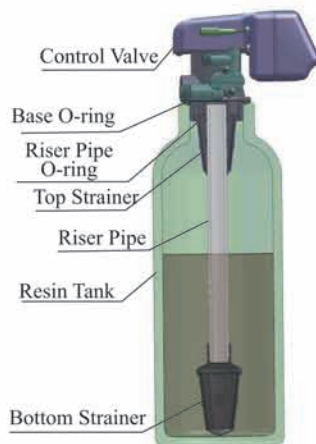

Figure1-1
- ①The filter or softener should be located close to drain.
- ②Ensure the unit is installed in enough space for operating and maintenance.
- ③Brine tank needs to be close to softener.
- ④The unit should be kept away the heater, and not be exposed outdoor. Sunshine or rain will cause the system damage.
- ⑤Avoid installing the system in circumstance of acid/alkaline, magnetic or strong vibration, because above factors will cause the system disorder.
- ⑥Do not install the filter or softener, drain pipeline or overflow pipe in circumstance where temperature may drop below 5℃, or above 50℃.
- ⑦Install the system in the place where with the minimum loss in case of water leakage.
① Install control valve
a. As the Figure 1-1 shows, select the riser pipe with 26.7mm OD, glue the riser pipe to the bottom strainer and put it into the mineral tank, cut off the exceeding pipe out of tank top opening and make external rounding.